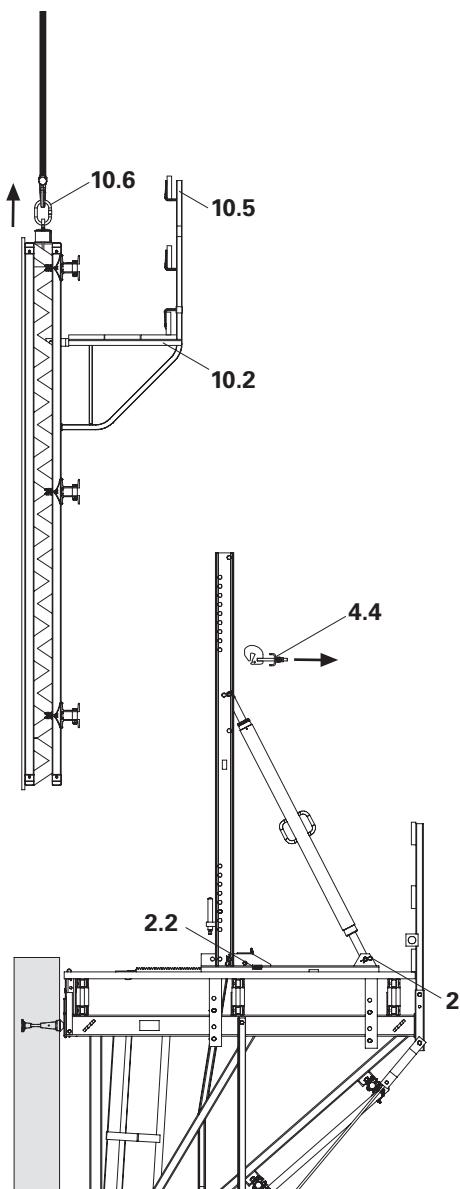

Fig. B2.10
1. Retract Carriage (2) and secure with wedge (2.2), see B4.1. Brace Strongbacks laterally.
4. Raise formwork and remove (e.g. storage area). (Fig. B2.10)